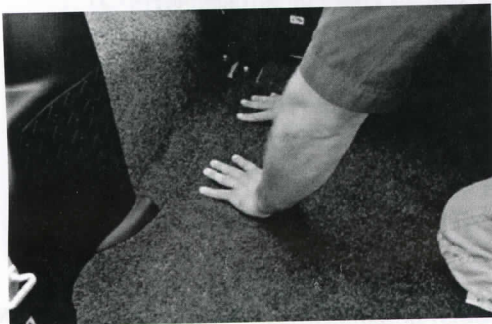

FIGURE 6:
13. After properly positioned, pull up the edges of cargo floor piece to access the hook fasteners. Clean painted surfaces with alcohol then remove the film backing. Firmly press the top surface to ensure adhesive attachment. (Fig. 6)